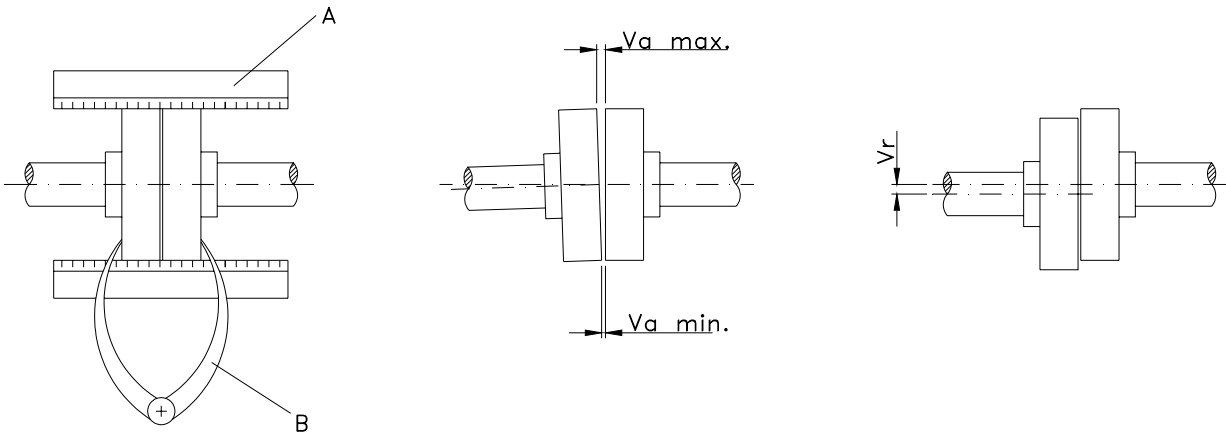

Figure 4.3: coupling alignment.
Place a straight-edge (A) on top of the coupling: the straight should make contact with both halves of the coupling over their entire length (see figure 4.3).